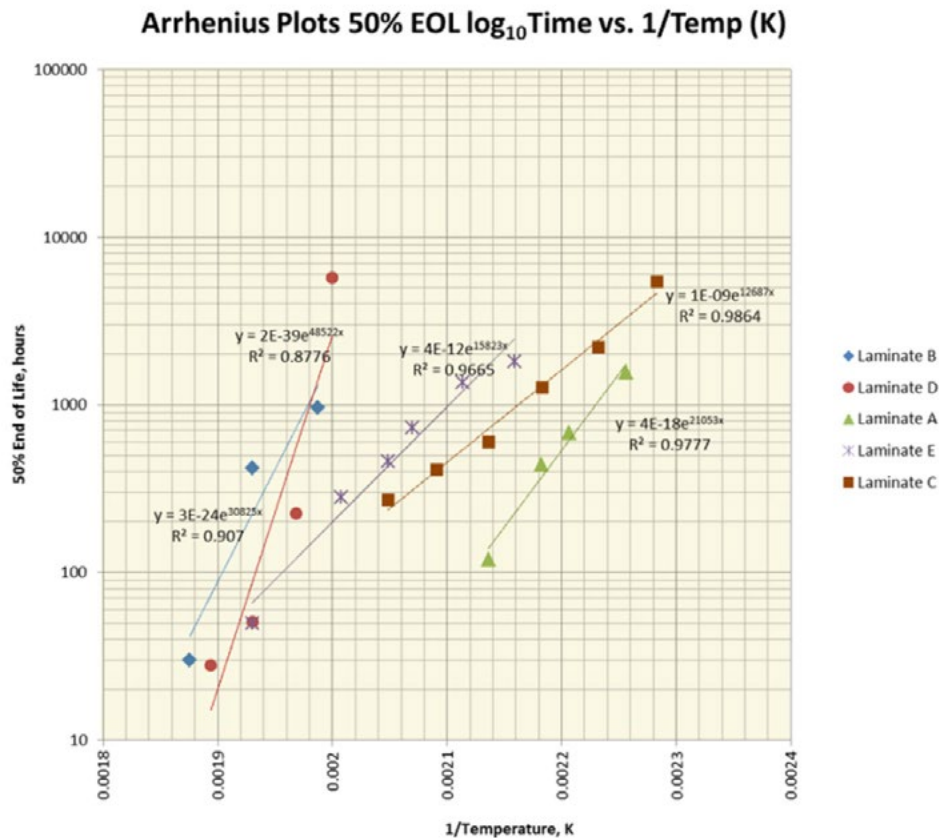

Figure 11: Arrhenius Plots of 50%  $\log_{10}$  Time (hours) vs. 1/Temperature (K).
Using the 1000 hour test data and +25,000-hour test data from T3, T4, and T5, an Arrhenius plot of 50% EOL (hours) vs. 1/Temperature (K) was generated for each laminate in Figure 11. Data is still being collected for T1 and T2